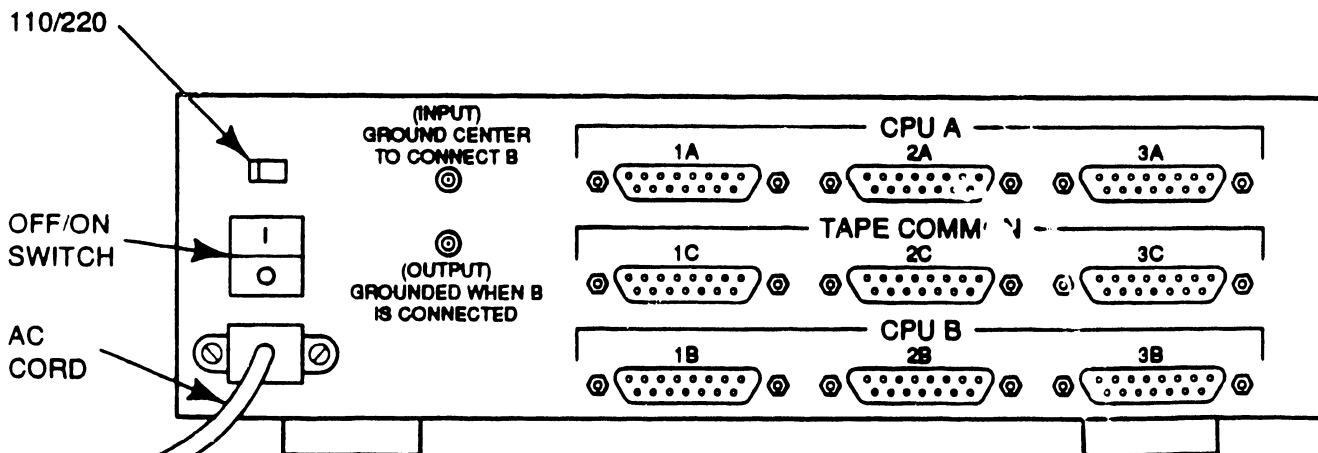

Figure 3. Rear View Controls and Indicators
On the rear panel of the Model 7092 (Figure 3) is a voltage selection switch (110/220 VAC), Power ON/OFF switch, two BNC connectors for remote or daisy chain of the switch control, AC Power Cord input connector and nine connectors (three each for CPU A, CPU B and Tape Drive).
7. Connect AC power cord. (Figure 3)